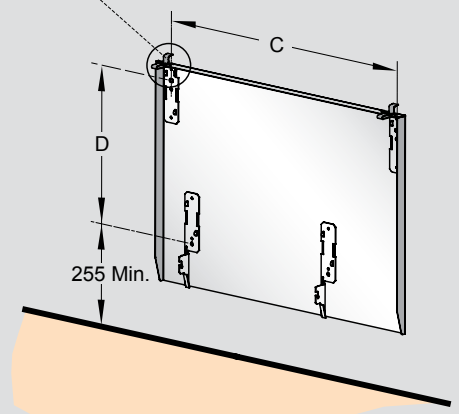

Fig. 3
1. Remove the wall mounting bracket from the back of the heater by depressing the spring latch at the top of each bracket - see **Fig. 3**.
To release the heater from the wall bracket for cleaning or redecoration, depress the latch on each bracket (See **Fig.3**) and hinge forward.